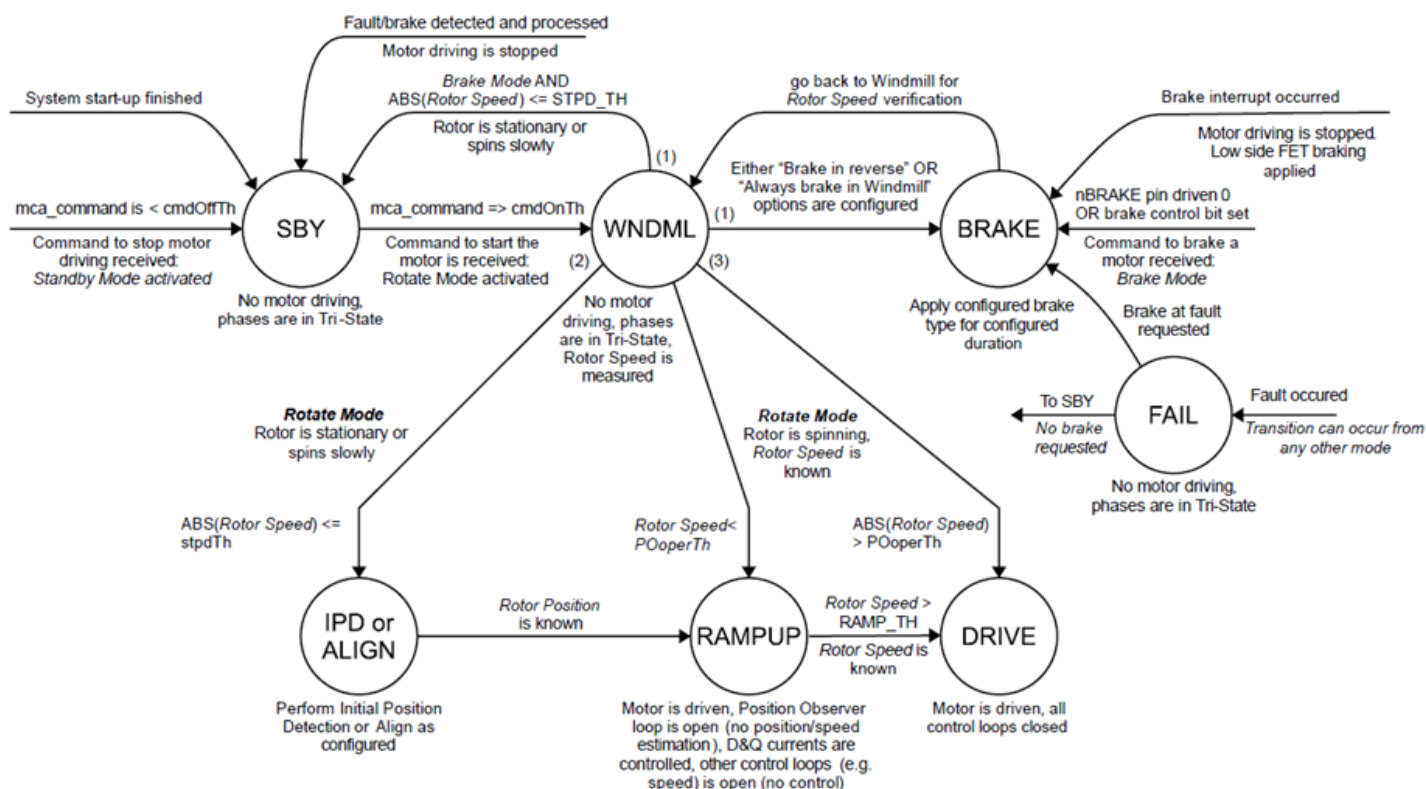

Figure 12: MCA FSM States
The distinct states of the MCA FSM are shown in Figure 12:
- After the internal initialization is complete and once a command to run the motor is received, the A89333-1 transitions to the windmill check state (WNDML) to determine the initial status of motor movement and then start to drive the motor as shown in Figure 12.